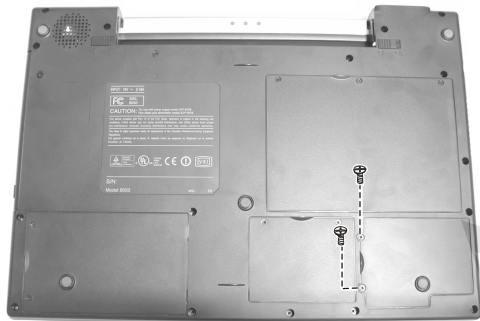

Figure 2-12 Remove two screws
2. Remove the two screws fastening the Mini PCI compartment cover. (Figure 2-12)